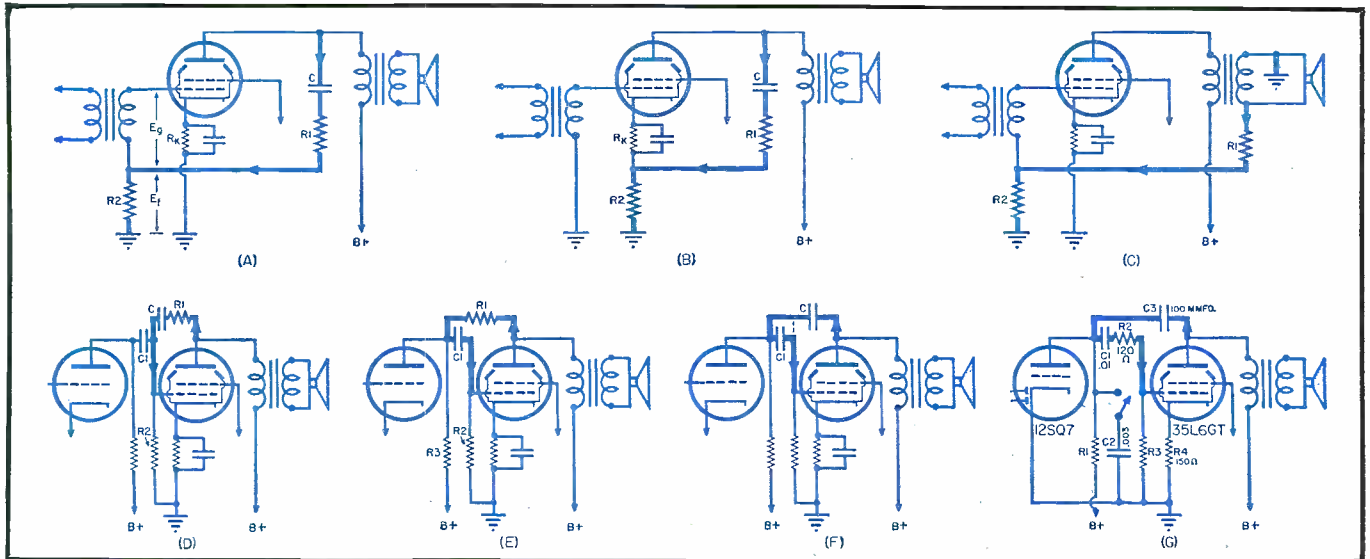

Fig. 2. Typical circuit arrangements employed for constant-voltage feedback over a single stage.
In Fig. 2 several circuits are shown for applying constant-voltage degeneration to a single stage of amplification when a single tube is employed. For a single power tube with transformer coupling to its grid, the circuit of (A) may be used. In this circuit a portion (E_r) of the output signal voltage appears across R_2 . Since R_2 is in series with the secondary winding of
All three of the feedback circuits just described employ constant-voltage feedback introduced in *series* with the input circuit. When the input to the stage employs resistance-coupling, the feedback may be applied either in *series* or in *parallel* with the input circuit. Parallel-feed circuits similar to those shown in (D), (E), and (F) of Fig. 2 are frequently used.
The series-feed constant-voltage feedback arrangement of (A) of Fig. 2 is shown at (A) in Fig. 3 applied to a push-pull amplifier stage. The amount of inverse feedback is equal to $\beta = R_2 / (R_1 + R_2)$. It is evident that the usual frequency-discrimination disadvantages of this circuit arrangement also apply in this case. However, there is an additional disadvantage arising from its use in the push-pull stage if the push-pull tubes are operated as Class AB₂ or Class B amplifiers so that they draw grid current. (If the tubes are operated as Class AB₂ or Class B amplifiers, the self-bias arrangement (R_K) shown cannot be used. A source of fixed grid bias is essential.) The resistance of the grid circuit, due to the presence of R_2 , will prove too high, and a considerable amount of amplitude, or harmonic, distortion will be introduced into the signal.